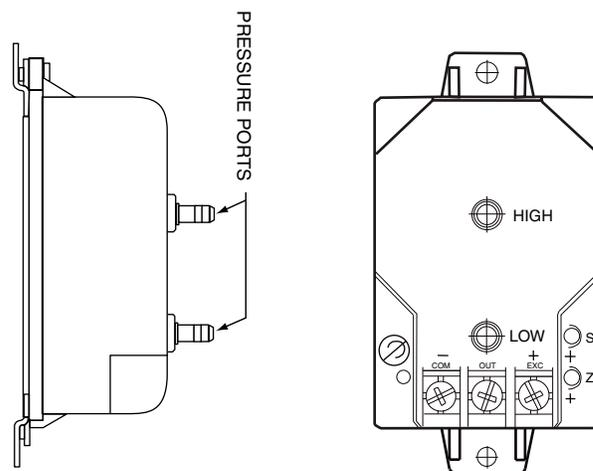

Fig. 55 — Transducer Details
3. Connect a 24-vdc power supply to transducer terminals EXC(+) and COM(-). See Fig. 55.
5. With both pressure ports open to atmosphere adjust the Zero (Z) screw potentiometer on the transducer and read the multimeter until the desired current output at 0 in. wg pressure is obtained (see Fig. 55).